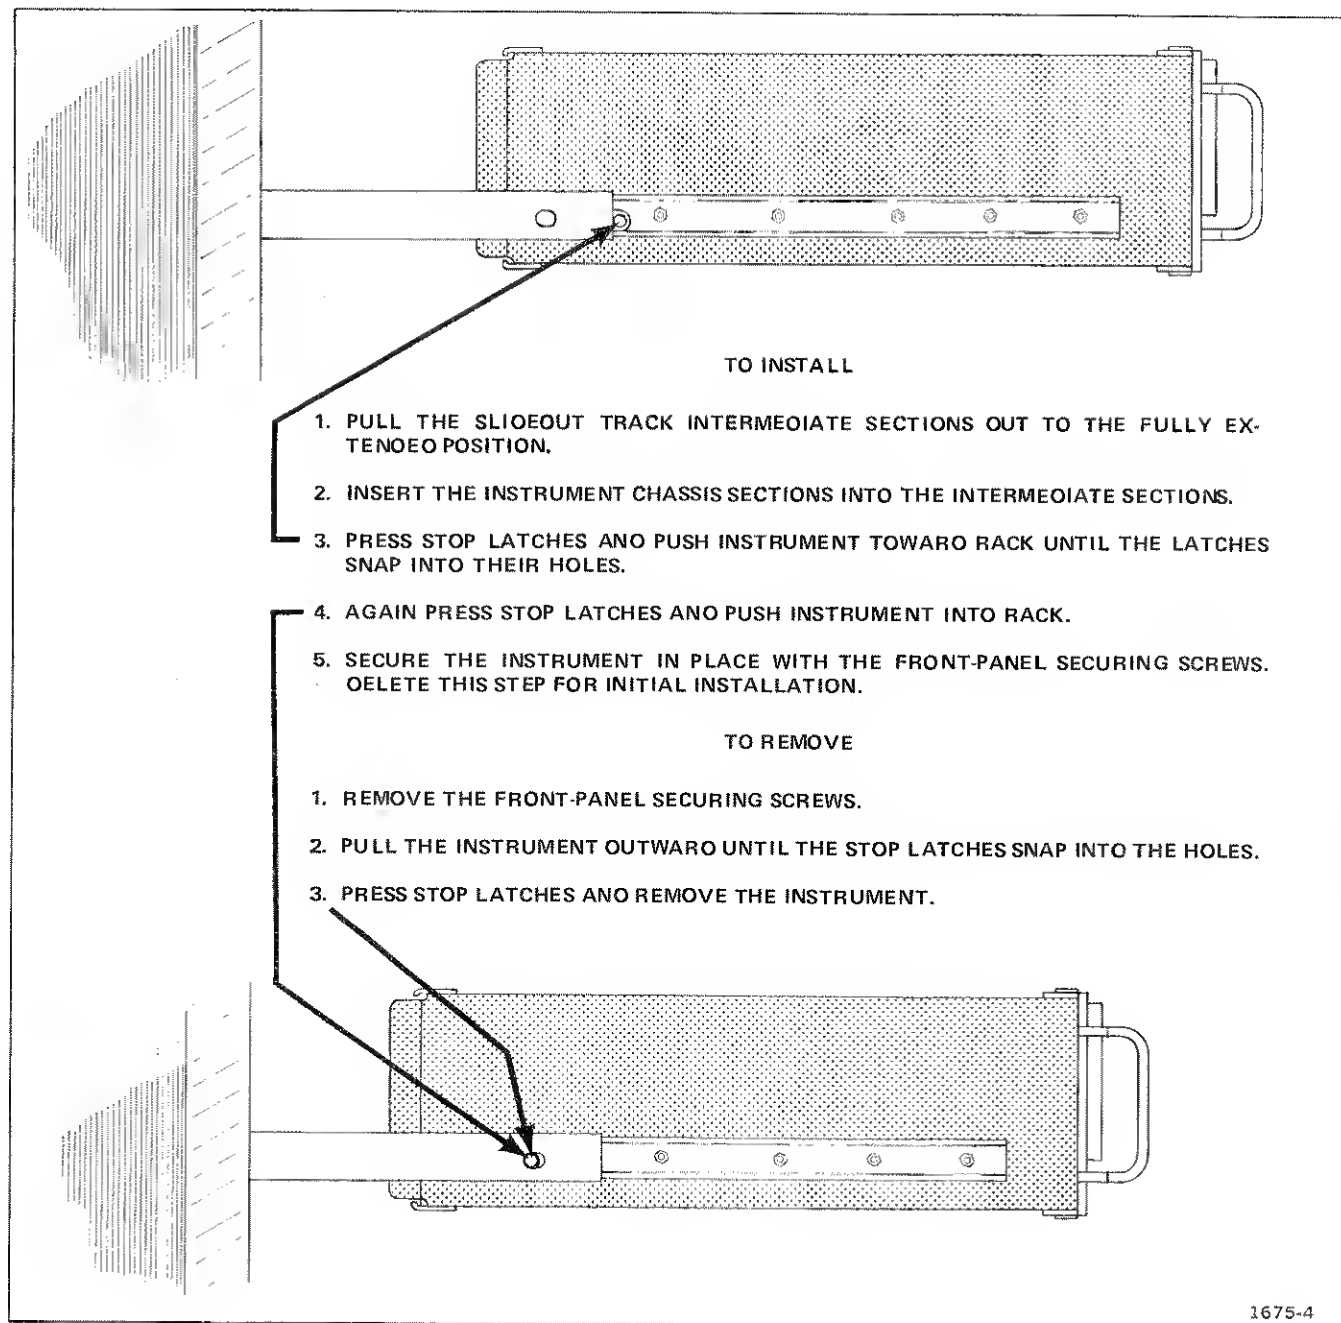

Fig. 3-4. Installing and removing the instrument.
4. Refer to Fig. 3-4 to install the instrument into the rack.
After initial installation and adjustment of the slid-out tracks, the instrument can be removed or installed by following the instructions given in Fig. 3-4. No further adjustments are required under normal conditions.